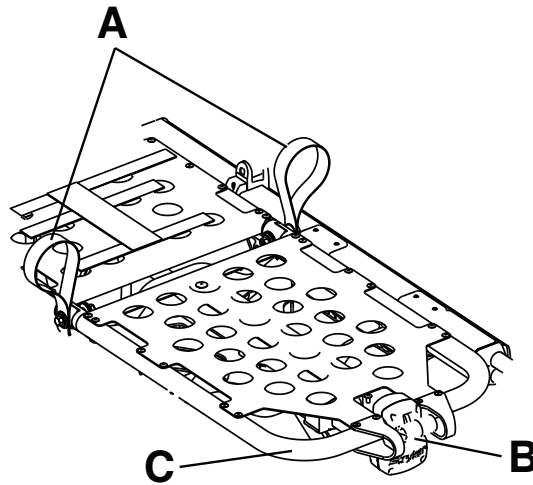

Figure 15 – Gatch
1. Lift either of the red lifting loops (A) until the knee Gatch is in the highest position (Figure 15).
To lower the knee Gatch, lift either of the red lifting loops (A) to relieve pressure on the locking mechanism. While you hold the loop, push on the red footrest release handle (B) until the support bracket is released (Figure 15). Lower the knee Gatch until it lays flat.
To raise the knee Gatch in Trendelenburg, lift the footrest frame (C) as high as possible until the frame locks into place (Figure 15). The support bracket automatically connects when you release the frame.
To lower the knee Gatch in Trendelenburg, lift the footrest frame (C) and, while you hold the frame, lift up on the red footrest release handle (B) until the frame releases the support bracket (Figure 15). Lower the footrest until it lays flat.